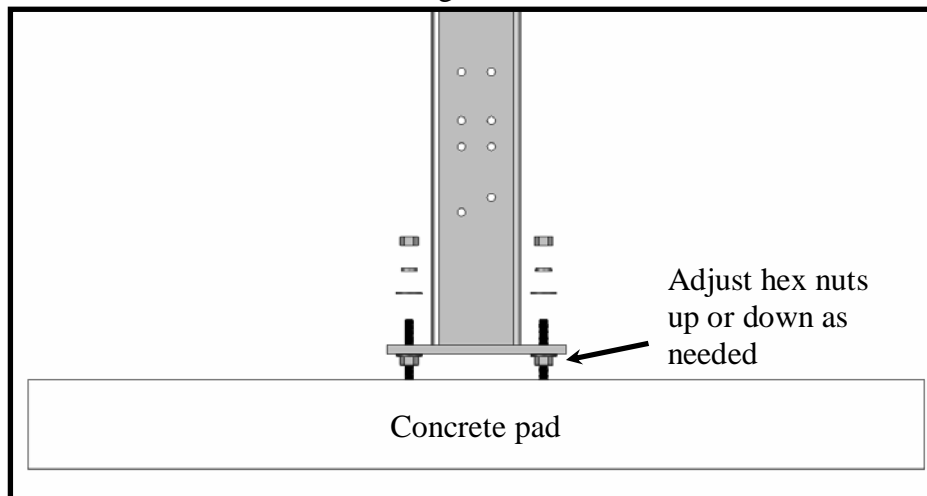

Figure B4
4) Adjust hex nuts up or down to achieve the desired level height. See Figure B4.